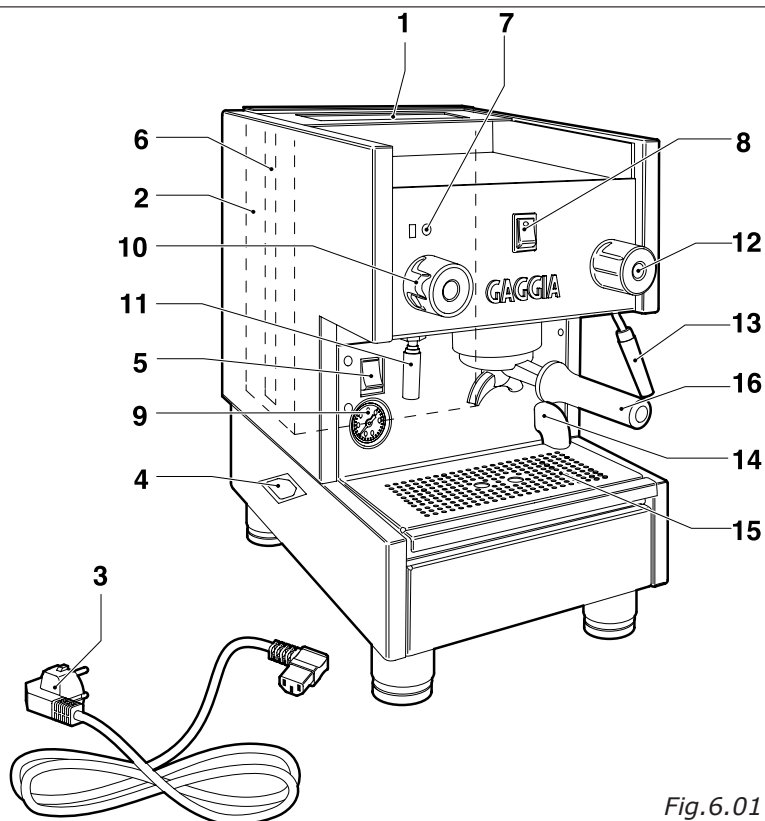
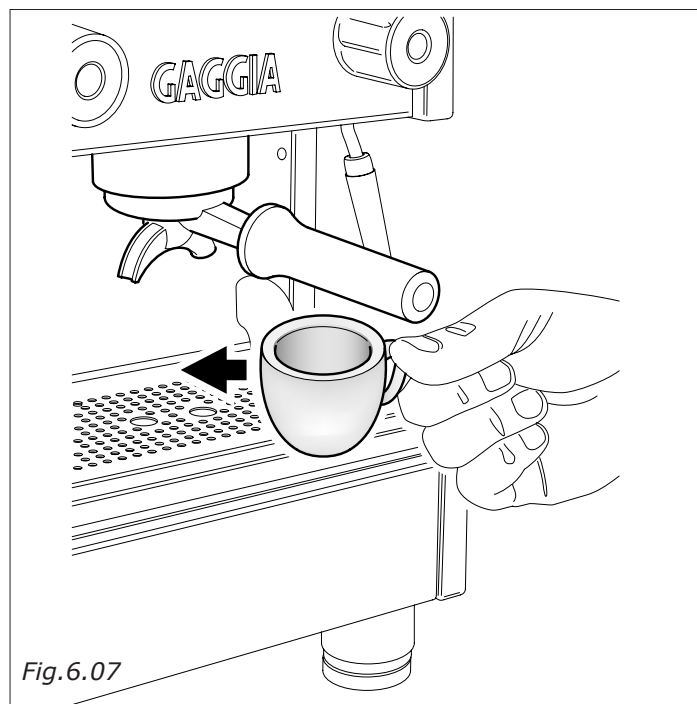

Fig.6.01
Fig.6.07
- The self-level device will start at the same time as the relevant light (Fig.6.01-pos.8), so that the water can reach the regular level in the boiler. Only during the first loading, this operation can take quite a long time and make the machine stop; in this case switch off the machine and switch it on again by acting on the main switch (Fig.6.01-pos.5).
- Then wait until the machine reaches the operating pressure of "1,2 - 1,3 BAR" by checking the boiler pressure on the manometer (Fig.6.01-pos.9).
- Place one or two cups under the filter holder (Fig.6.07), put the coffee switch (Fig. 6.01-pos.8) on "I" and the coffee will start coming out.